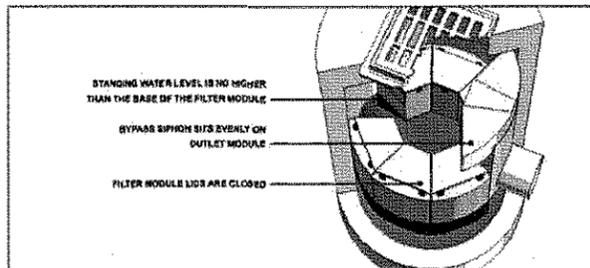

Figure 4: Inspection view of the Up-Flo™ Filter
3. Without entering the vessel, look down into the chamber to inspect the inside. Make note of any irregularities. See Figure 4 for a typical Inspection View.